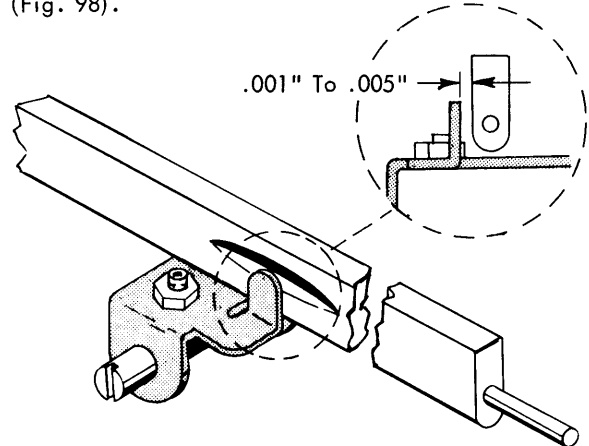

FIGURE 98. *Torque Bar Backstop*
4. Torque Bar Back Stop (long carriages only) - Adjust the back stop forward or back on its mounting stud so that there is a .001" to .005" clearance with the torque bar (Fig. 98).